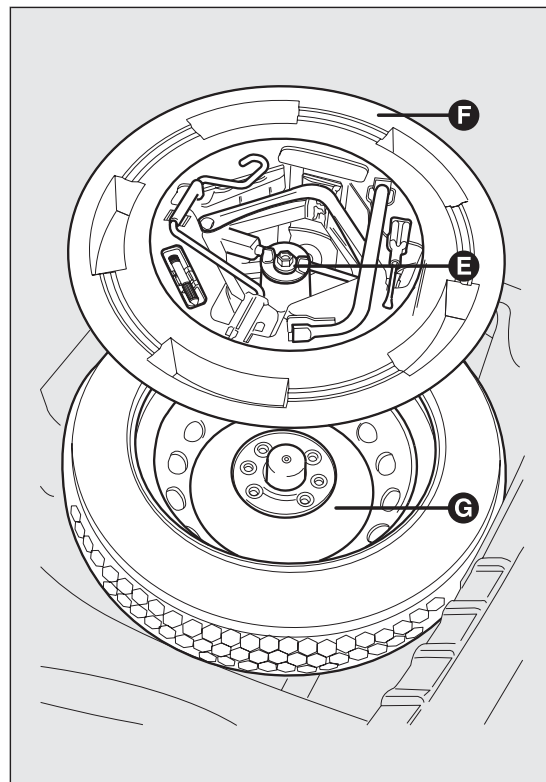

fig. 149
- arrange the space-saver wheel G fig. 149 in the specific compartment in the luggage compartment;